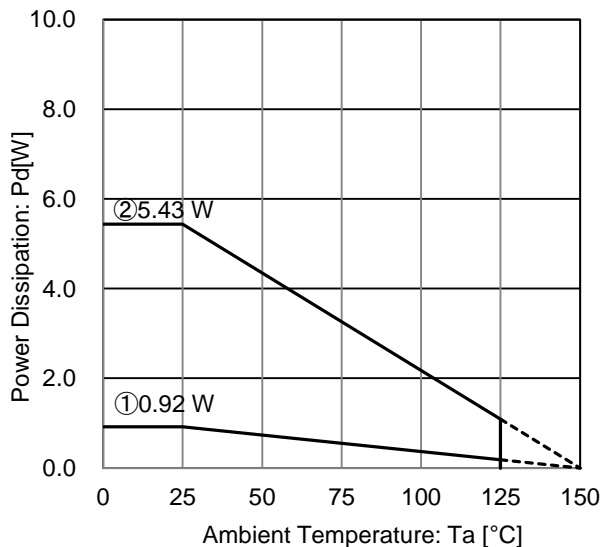

Figure 26. TO252-3 Package Data
At Ta=125°C with Figure 26 ② condition, the calculation shows that ca 105mA of output current is possible at 10.2V potential difference across input and output.
At Ta=125°C with Figure 26 ② condition, the calculation shows that ca 127mA of output current is possible at 8.5V potential difference across input and output.